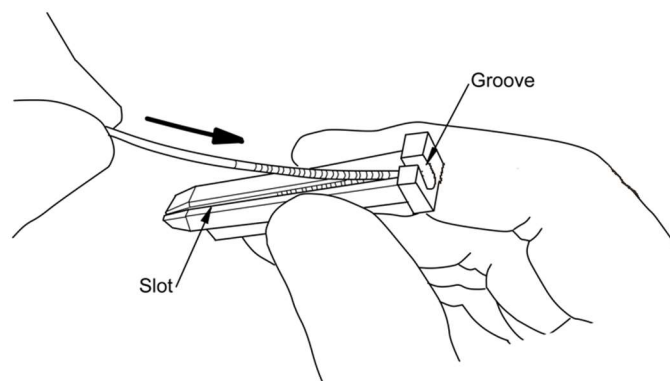

Figure 11.1: A) The lead adapter. B) Placing the tip of the proximal connector into the lead adapter slot.
5. Place the tip of the proximal connector end of the lead into the end of the lead adapter slot (Figure 11.1).